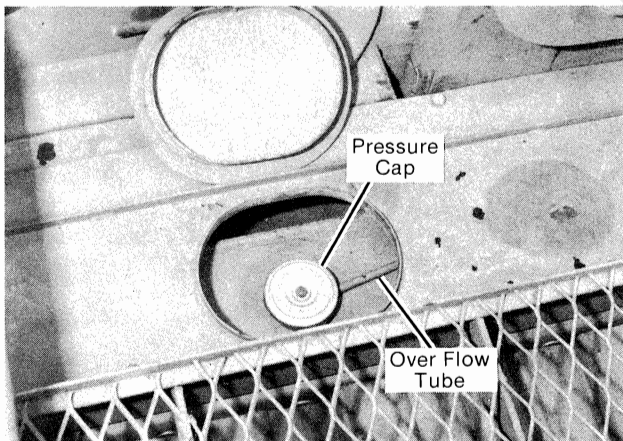

Figure 3 Coolant Fill
- a) Remove the pressure cap from the radiator (see Figure 3).
6. Check that the overflow tube (Figure 3) is open.